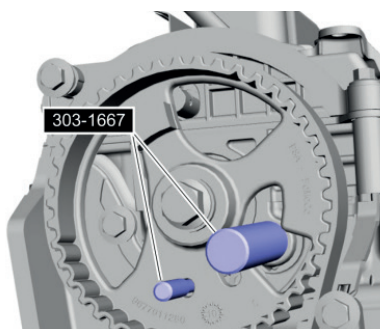

fig 1
- » when the holes line up, fit the dedicated camshaft sprocket locking tool (fig 1) to secure it into position
- » check that the engine camshaft sprocket is still locked in the correct position (fig 1)